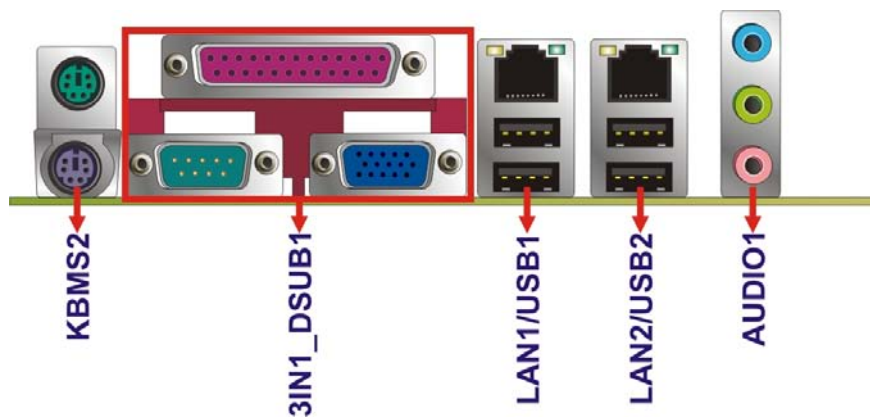

Figure 3-20: External Peripheral Interface Connector
CN Location:	See Figure 3-20
CN Location: See **Figure 3-20**
- CN Location: See **Figure 3-20**